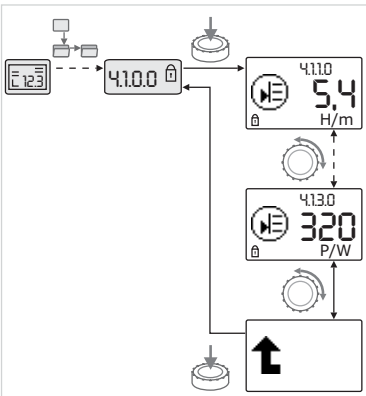

Fig. 44: Calling up information
- Turn the white button to access the “Information” menu elements in the current sub-menu (see Fig. 44). For an explanation of the settings represented by the symbols, see the table in chapter 8.7 “Menu elements reference” on page 101.